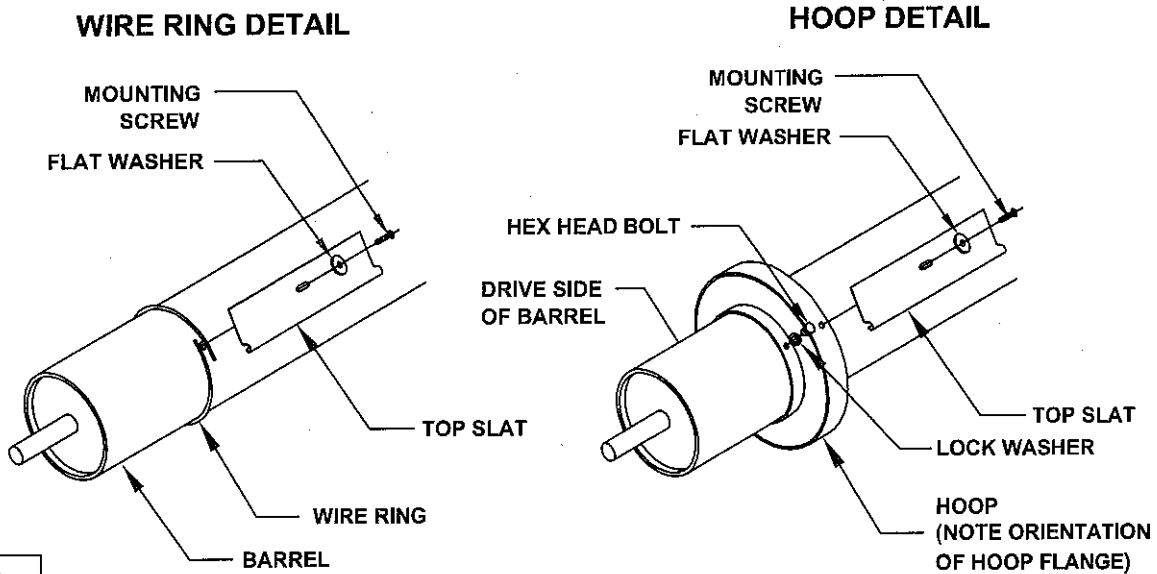

FIG 8
- 1) Determine whether you have Right Hand (RH) or Left Hand (LH) drive, place the barrel below the opening in the position it takes when actually mounted. If you have hoops or wire rings consult FIG 8.